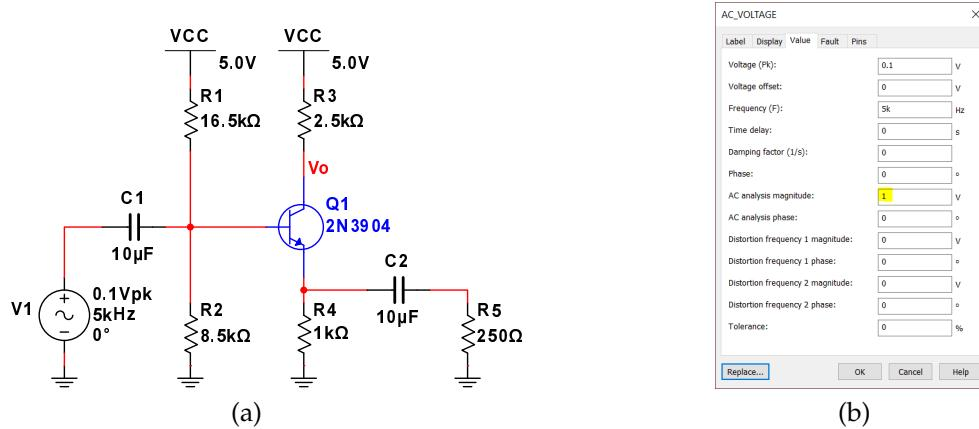

Figure 8: (a) Amplifier circuit for R_i simulation (b) Input voltage source properties
- Identify the label of the input voltage source: V1 in Fig. 8(a)
- Make sure that the "AC analysis magnitude" of V1 is set to 1 as in Fig. 8(b)